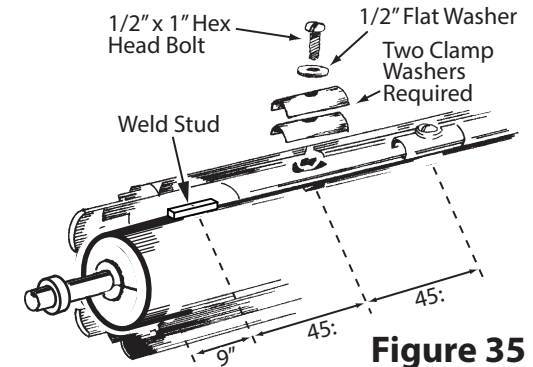

Figure 35
- The top slat will have slots to attach to barrel. Hook curtain over studs and fasten with 5/16" round head screws and washers and TWO clamp washers provided. See Figure 35.